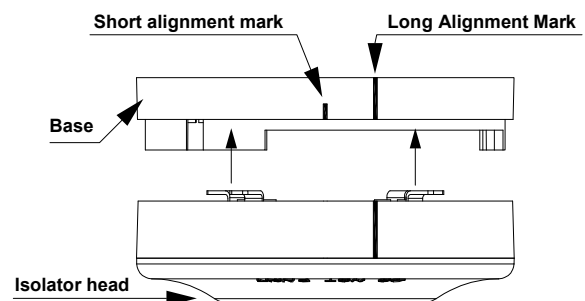

Fig. 2: Fitting the isolator to the base
1. Align the loop isolator alignment mark with the short alignment mark in the base, as shown in Fig. 2.